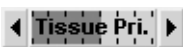

Figure 3-12: The Doppler Spectrum control panel
- a Control panel for image optimization and analysis. The control panel is mode-dependent (see Figure 3-8 through Figure 3-12).